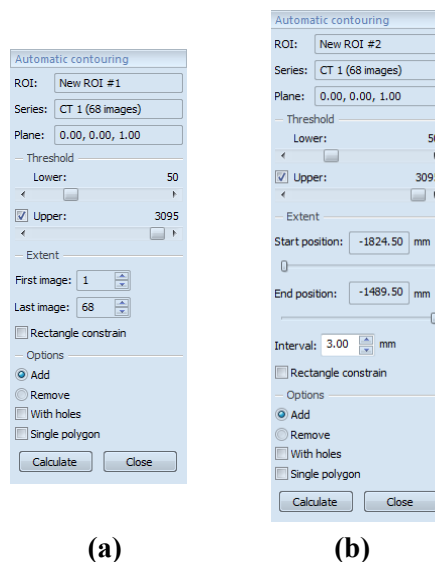

Figure 189 – Auto ROI tool for original images (a), for reconstructed images (b)
3. The **Auto ROI** tool will be displayed as a new tab in the tools panel automatically. You can define options for automatic contouring there (see Figure 189).